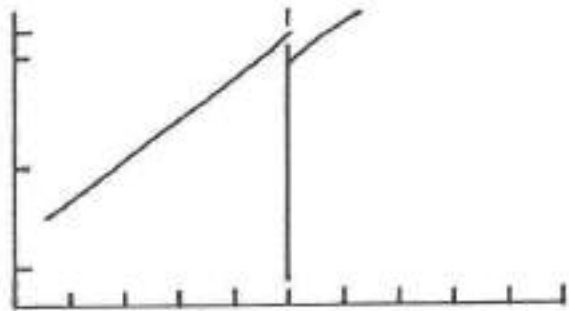

Figure 7-3. PPM Display w/A5R30 Max. CCW
12. The display should look similar to Figure 7-3, below.